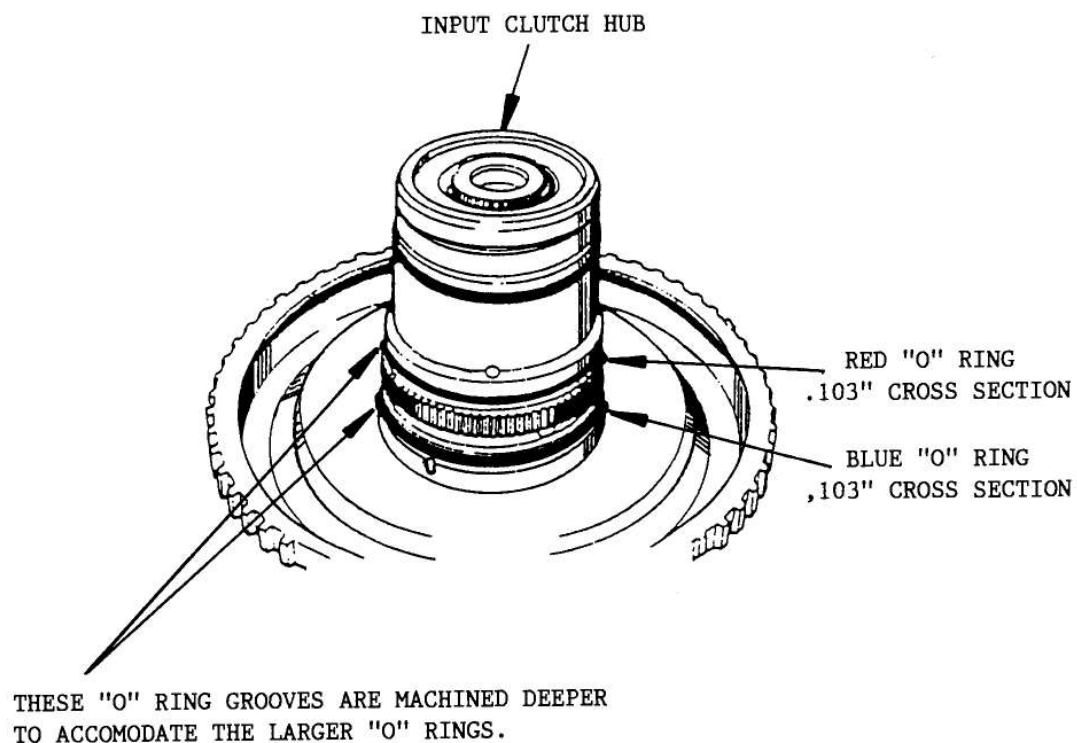

Figure 29
- (1) INPUT CLUTCH HUB - The "O" ring grooves on the Input Clutch Hub are cut deeper to accommodate the larger cross section color coded "O" rings (See Figure 29).